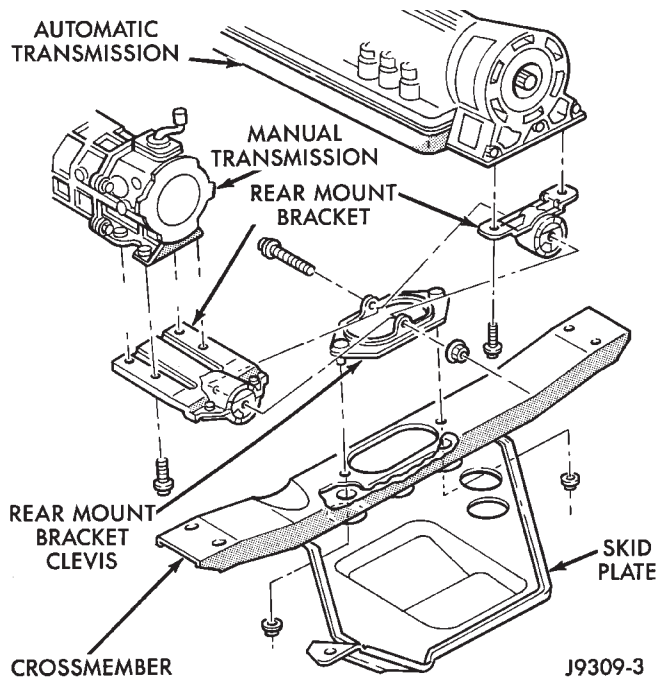

Fig. 8 Engine Mount—Rear
A resilient rubber cushion bracket assembly supports the transmission at the rear. This bracket is attached to the crossmember (Fig. 8).
- (1) Disconnect the negative cable from the battery.
- (2) Raise the vehicle and support the transmission.
- (3) Remove the nuts holding the clevis bracket to the crossmember (Fig. 8).
- (4) Raise the transmission SLIGHTLY.
- (5) Remove the through bolt and nut (Fig. 8).
- (6) Set the rear mount bracket clevis aside.
- (7) Remove the bolts holding the rear mount bracket assembly to the transmission (Fig. 8).
- (1) Position the rear mount bracket assembly onto the exhaust hanger.
- (2) Position the rear mount bracket assembly onto the transmission (Fig. 8). Install the bolts and tighten to 46 N•m (34 ft. lbs.) torque.
- (3) Install the through bolt into the rear mount bracket and clevis (Fig. 8). Finger tighten the nut at this time.
- (4) Lower the transmission until the clevis bracket studs are in position on the crossmember (Fig. 8).
- (5) Install the clevis bracket stud nuts. Tighten the nuts to 41 N•m (30 ft. lbs) torque.
- (6) Tighten the through bolt to 65 N•m (48 ft. lbs.) torque.
- (7) Remove the transmission support.
- (8) Lower the vehicle.
- (9) Connect the negative cable to the battery.